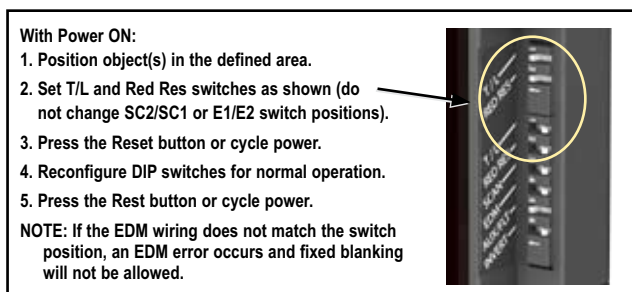

Figure 3-17. DIP switch configuration to teach fixed blanking
- From either normal operation or a power OFF condition, set the *first* and *second* DIP switches (T/L and Red Res) both to the left (Trip operation and Reduced Resolution enabled positions). See Figure 3-17.